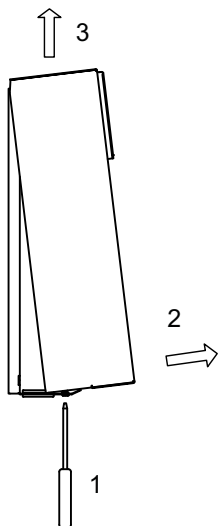

Fig. 3.2: Open the cover
- Open the controller cover (Fig. 3.2 on page 4)